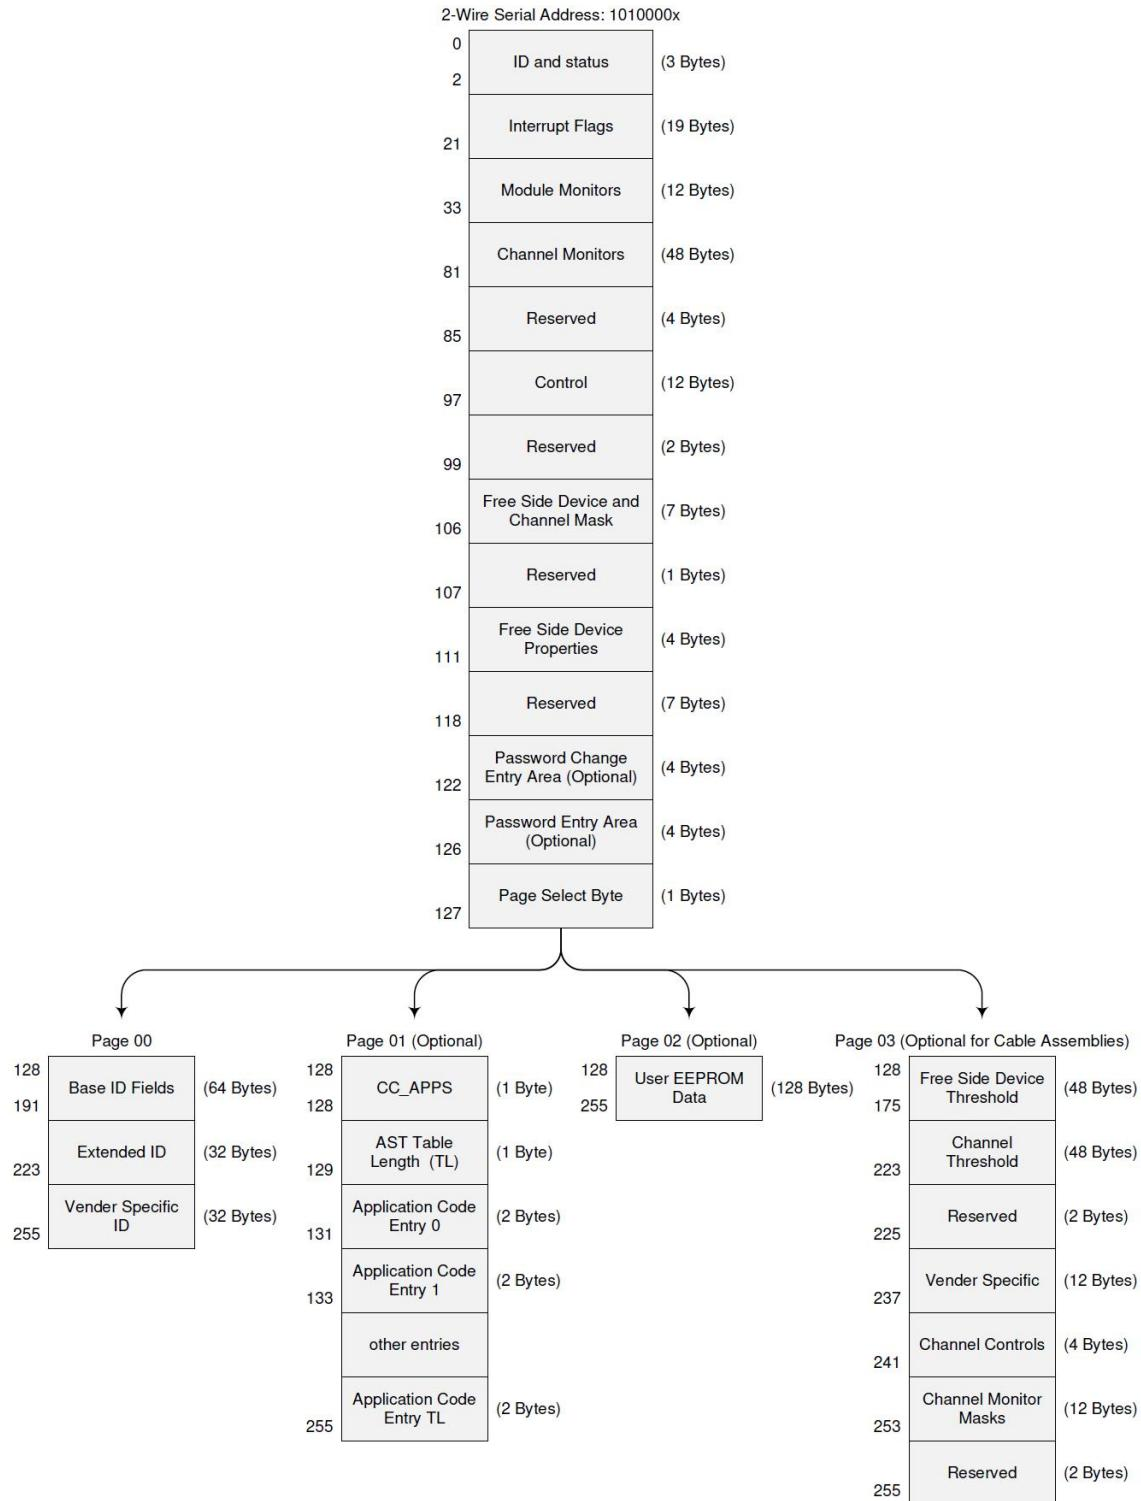

Figure 2 Memory map
- [2] Vcc Rx, Vcc1 and Vcc Tx are the receiver and transmitter power supplies and shall be applied concurrently. Recommended host board power supply filtering is shown in Figure2. Vcc Rx Vcc1 and Vcc Tx may be internally connected within the Module in any combination. The connector pins are each rated for a maximum current of 1000 mA.